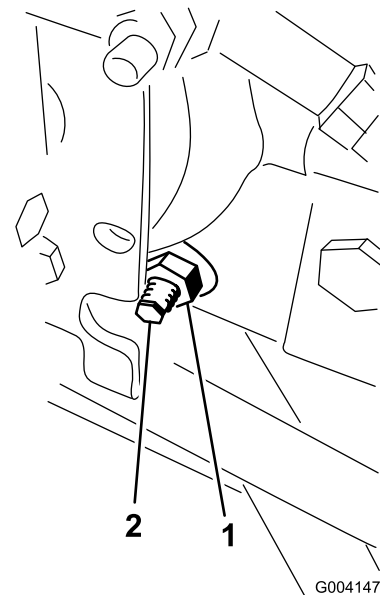

Figure 47
3. On the right side of the hydrostat, loosen the locknut on the traction adjustment cam (Figure 47).